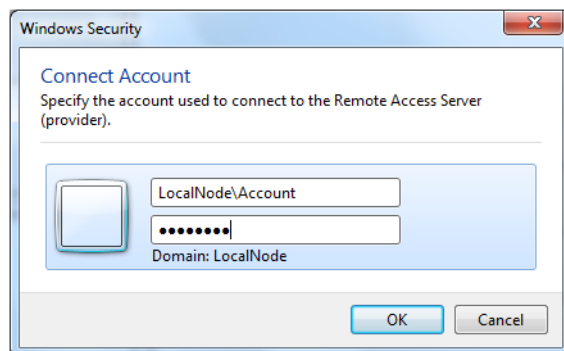

Figure 20. Connect Account
2. Specify the Account used to connect to the Remote Access Server (Provider) and click **OK**. See Figure 20.